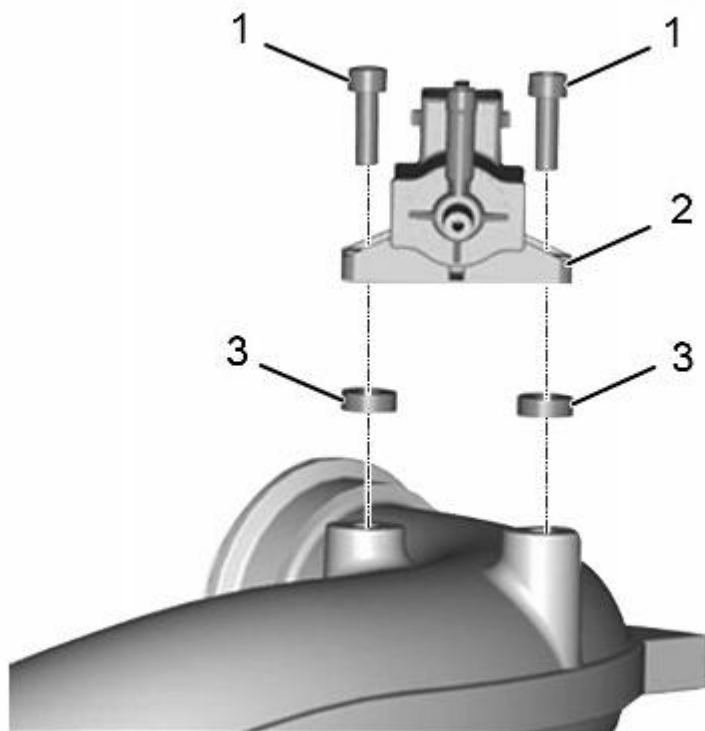

**Figure 17. Turbocharger 2 Wastegate Control (TC2WC) Valve.**
1. Bolt (2)
3. Insulator (2)
16. Install TC2WC valve (Figure 17, Item 2) onto crossover tube with two insulators (Figure 17, Item 3) and bolts (Figure 17, Item 1).